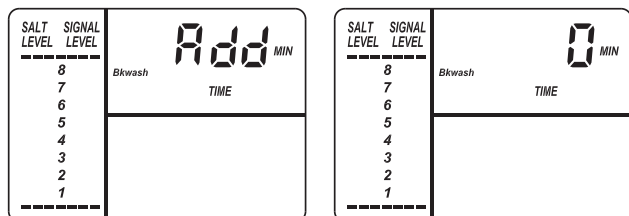

Figure 33
8. Press SELECT again to display the alternating screens shown in Figure 33.